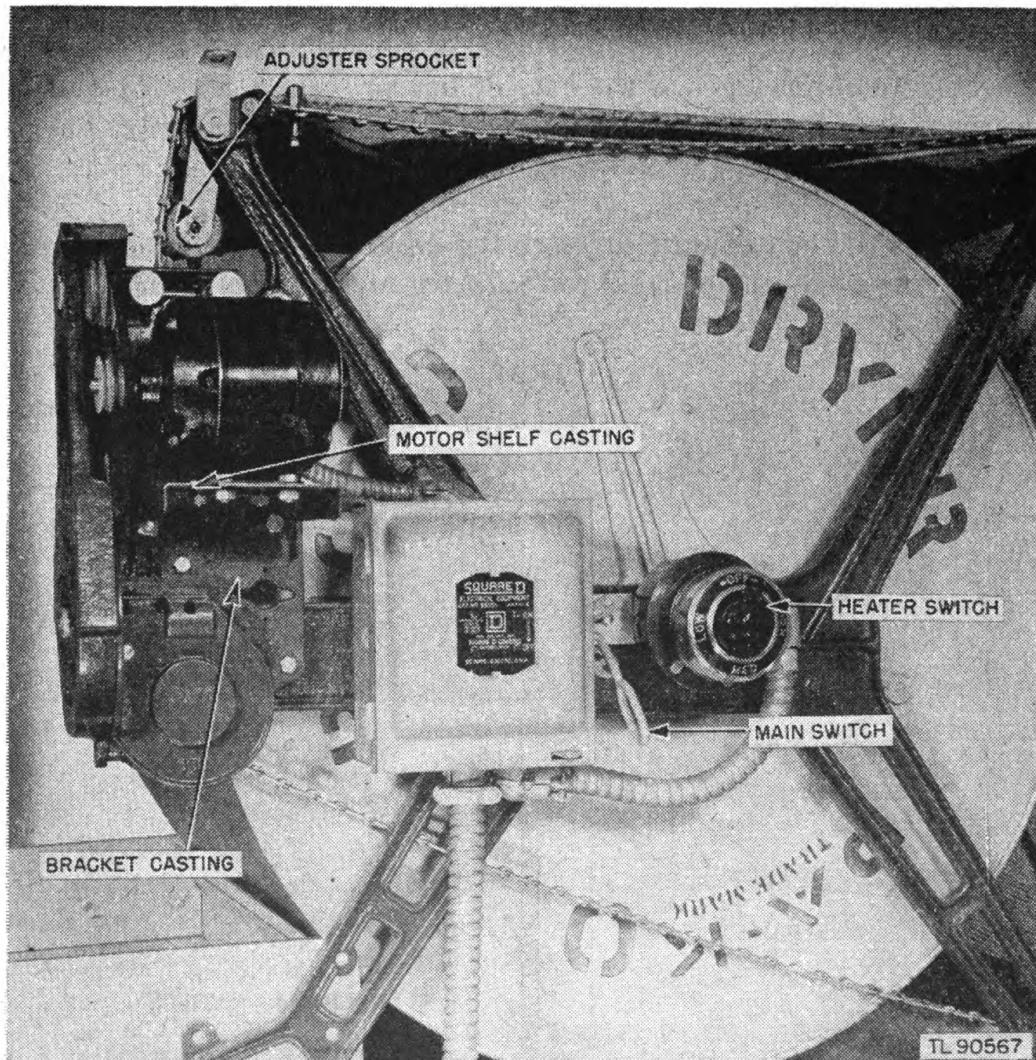
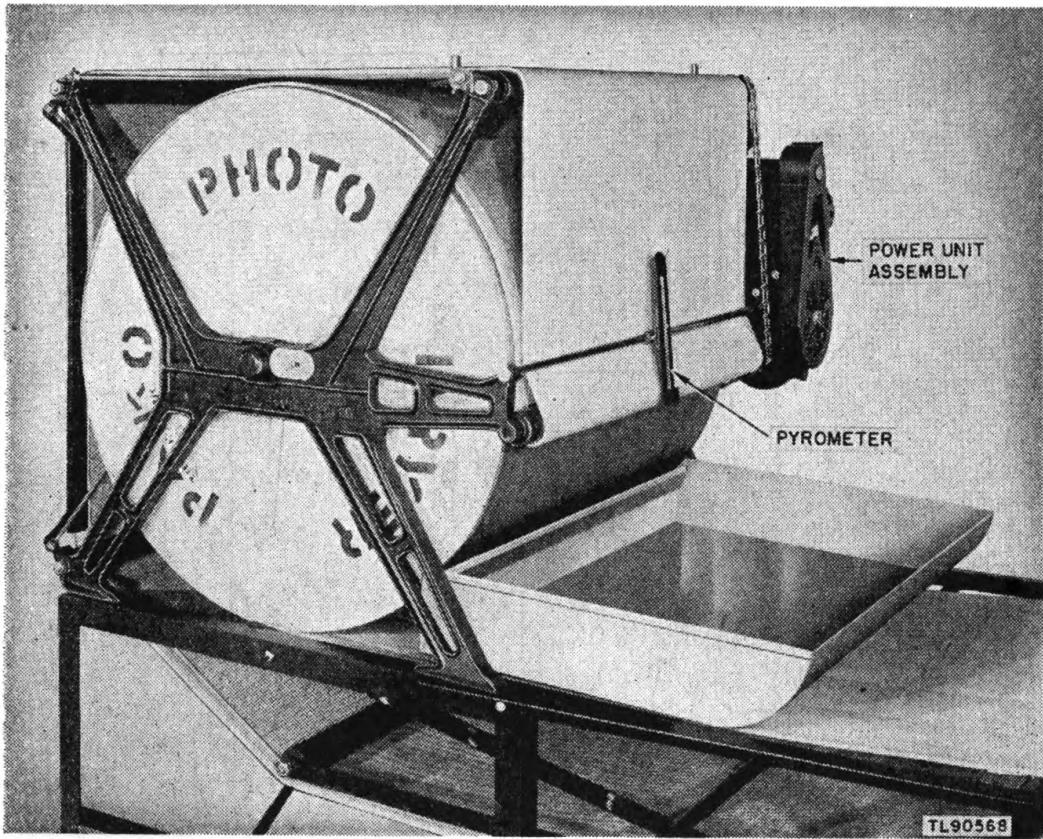

Figure 16. Dryer PH-176, right side detail view.
Figure 17. Dryer PH-176, left side detail view.
c. Watch the pyrometer (fig. 17) carefully while drying prints. It indicates the degrees of heat of the drum as LOW, NORMAL, or HIGH. Too much heat will dry the prints to excess, causing them to be brittle, and to wrinkle at the edges. The stages of heat as recorded on the pyrometer compare roughly with the settings of the heater switch LQW, MED, and HIGH (fig. 16). When the dryer is running at full capacity, it is generally best to run it on HIGH, but great care must be taken not to overdry the prints. Before
a. **Safety Switch.** If the safety (main) switch becomes defective, it is necessary to remove and replace it. If it is not bent by some heavy blow or allowed to become very dirty, the safety switch will operate indefinitely (fig. 16).
(1) To remove the safety switch, disconnect from the binding posts the two wires leading from the switch to the motor. Remove the locknut from the angle connector through which the armored cable is fed into the switch box. Lift the connector from the box.
(2) Repeat this procedure with the connector through which the wires from the porcelain base switch are fed into the box. Lift this connector from the box.
b. Heater Switch. Pull the knob outward (fig. 16), turn it to the left until unscrewed. This frees the bakelite cover and exposes the wiring connections. Label the terminals and the wiring before disconnecting them.